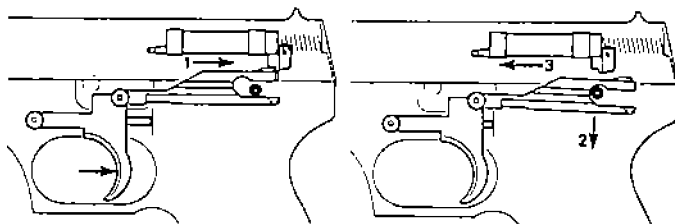

FIGURE 2—Trigger, Sear and Firing Pin Function.
Now see Figure 2. The sear pushes the firing pin rearward (1) until the sear roller rides into the sear ramp. This forces the sear down (2) away from the firing pin. The firing pin flies forward (3) pushed by its spring, to strike the primer in the base of the cartridge.